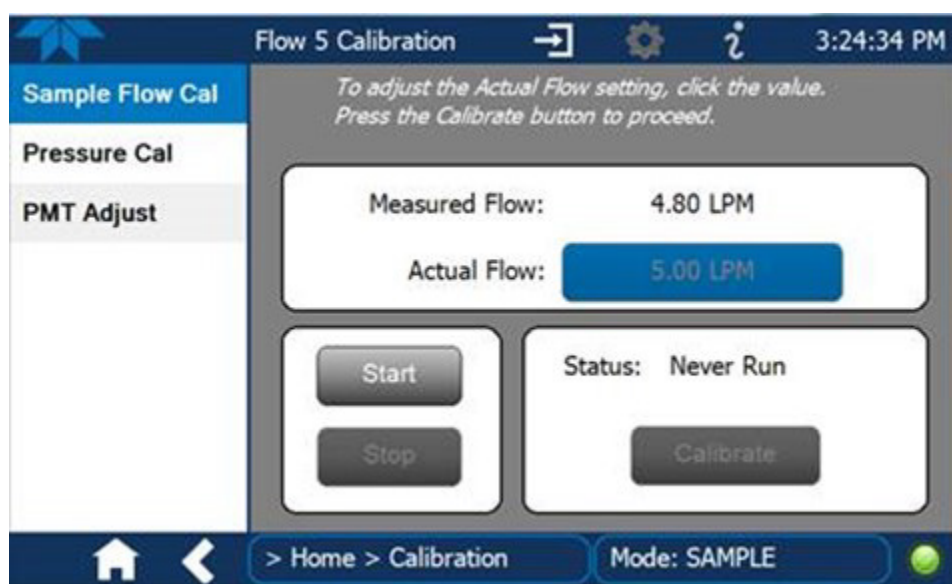

Figure 18. Sample flow calibration screen.
8. Compare the "Measured Flow" on this with to the Flow Standard (Figure 18) and determine whether these values differ by more than 5%, (e.g., beyond the range of 4.75-5.25 lpm for sample flow if the sampler reads 5.00 lpm).